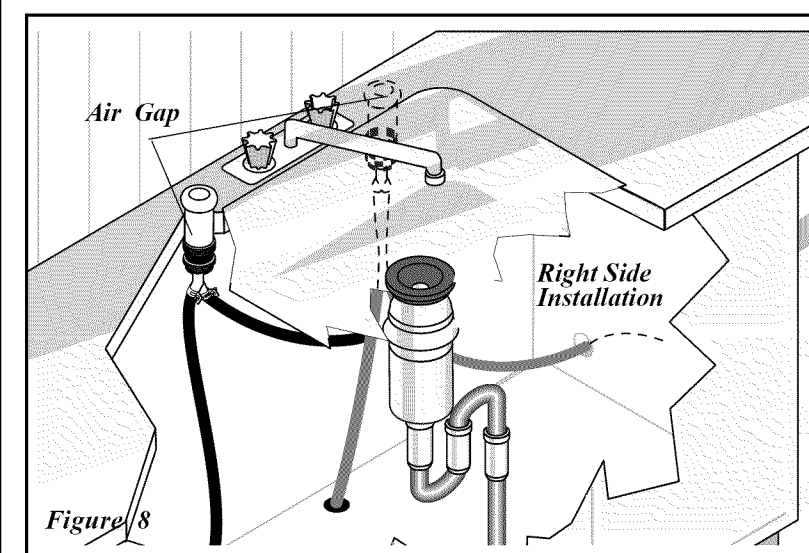

Figure 8
- If you connect to a sink trap, local codes may require you to install an air gap kit, (not included). The drain hose will be routed from dishwasher to air gap inlet as shown in Figure 8. An air gap kit is available from a plumbing supply store. (If the drain hose is installed through the floor, an air gap is necessary).